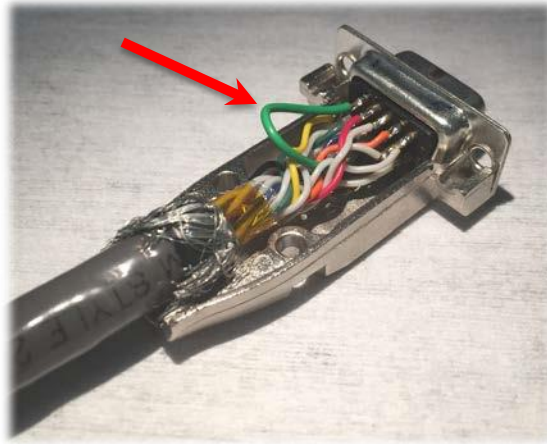

Fig 1. Example customer cable with pin 1 jumped with green wire to pin 13 (ground).
- Pin 1 is a test pin used only for factory programming. Tie this pin to ground (pin 13) in your mating HD15 connector as displayed in Figure 1 below.